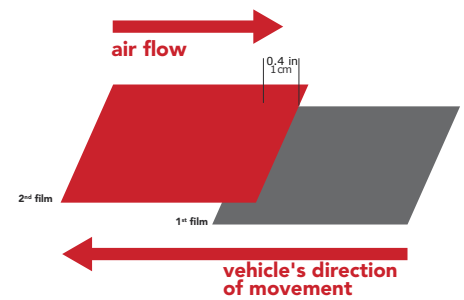

Figure 20
- › Vertical overlap of the SKINTAC HX45000 film on a mobile surface: Assuming that you always apply the film starting from the rear of the vehicle and working forward, then the overlapping will be done in the same way. (FIG. 20)